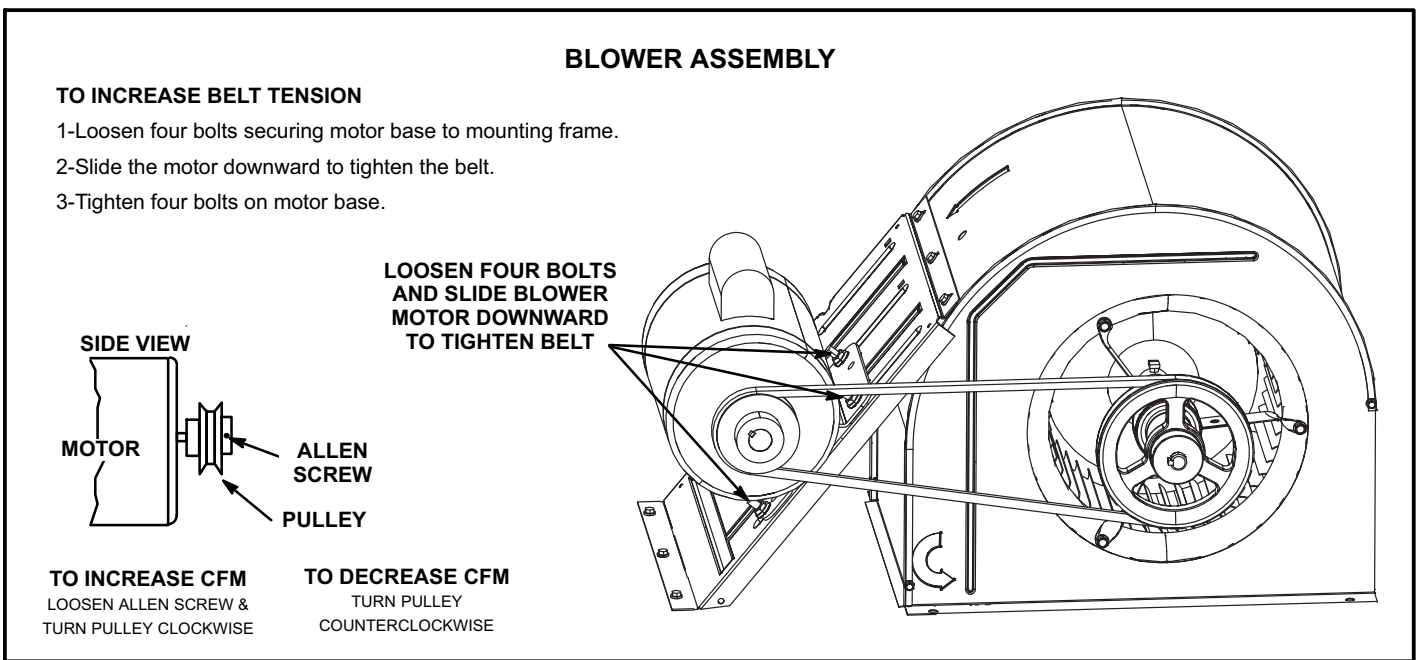

FIGURE 8
4- The blower RPM can be adjusted at the motor pulley. Loosen Allen screw and turn adjustable pulley clockwise to increase CFM. Turn counterclockwise to decrease CFM. See figure 8. Do not exceed minimum and maximum number of pulley turns as shown in table 1.
crease CFM. See figure 8. Do not exceed minimum and maximum number of pulley turns as shown in table 1.
- 1- Loosen four bolts securing motor base to mounting frame. See figure 8.